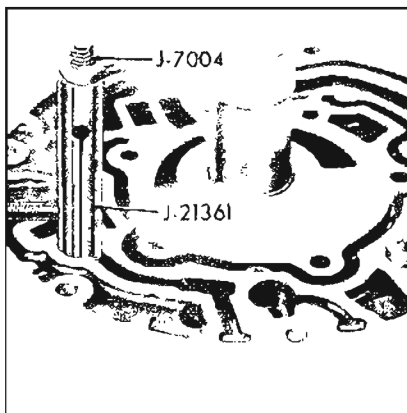

Figure 5-584
11. If necessary, remove the by-pass valve seats using tool J-21361, attached to a slide hammer, J-6125, or J-7004. See Figure 5-584.